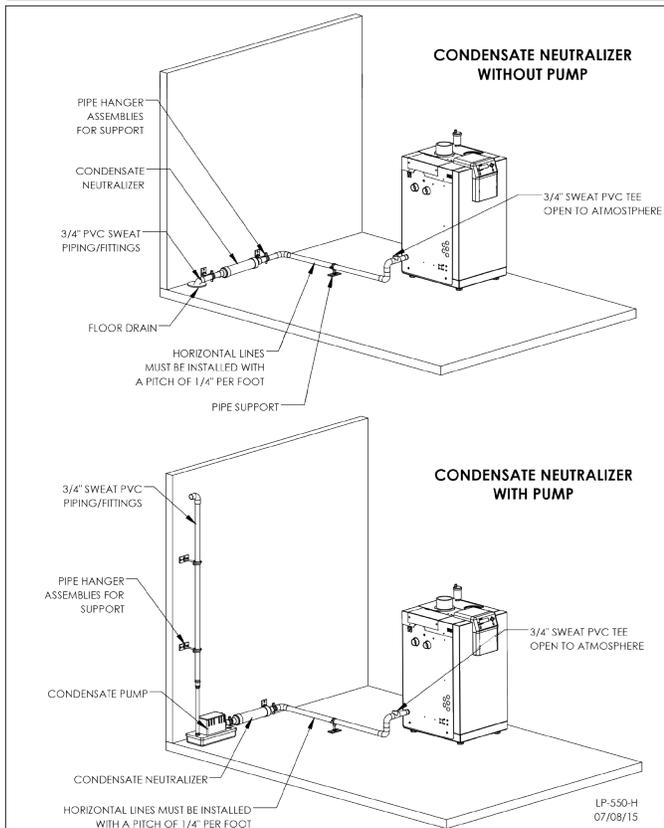

Figure 22 - Condensate Piping
8. Local building codes may require an in-line neutralizer to be installed (not included) to treat the condensate. See Figure 22. If required by local authorities, a condensate filter of lime crystals, marble, or phosphate chips will neutralize slightly acidic condensate (Part # 7450P-212 for 80/110/150/220/299/301 models, Part # 7350P-611 for the 399 model). Follow all the installation instructions included with the neutralizer. If a neutralizer is installed, periodic replacement of the limestone (or neutralizing agent) will be required. The rate of depletion of the limestone varies with usage of the appliance. During the first year of appliance operation, check the neutralizer every few months for depletion.